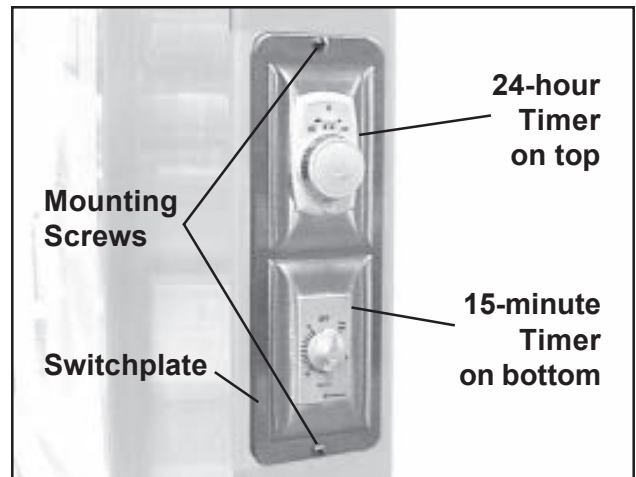

Figure 14. Light Timers in Place on Left Column
2. Mount the switchplate to the left column with two screws (Figure 14). The 24-hour timer should be on top. Make sure that no wires are trapped under the switchplate.